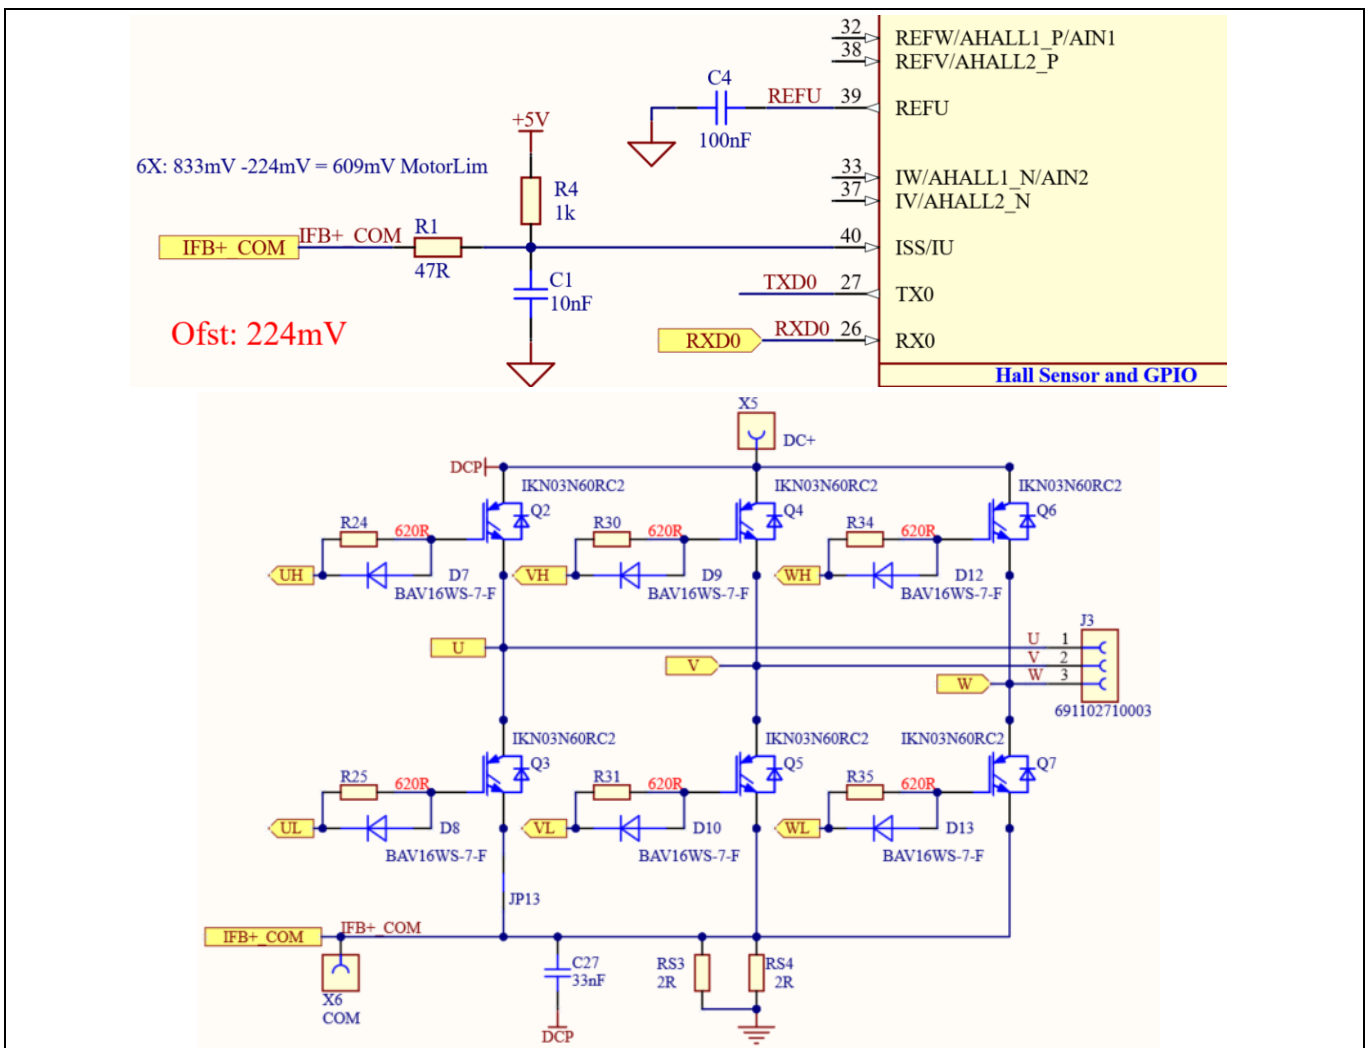

Figure 26 Motor current-sensing circuit on the board
As an example in Figure 26, this board has the following values: $R_1 = R_2 = 47 \Omega$, $R_3 = R_4 = 1 \text{ k}\Omega$, $R_s = R_{S3}/R_{S4} = 1 \Omega$, $V_{cc} = 5 \text{ V}$. By using the formula in Eq. 5, the offset is 224 mV, and the gain is $\frac{R_2}{R_1 + R_2} * R_{shunt} = 955 \text{ mV/A}$. Because the amplitude attenuation of low-pass filter, the gain needs to be amended to 909 mV/A for MCEWizard configuration.
- R_1 and R_4 in Figure 26 determine the ADC operational bias for current sensing, which corresponds to the motor regeneration operation range. For applications that do not work with a regenerative braking mode, the bias can be as low as possible to reserve enough ADC range for the drive mode, since the current in the sense resistance always flows in one direction only. In this example, the offset is 224 mV.
input to ADC offset voltage.” The DAC output pin REFU needs to be connected to a capacitor to improve noise rejection (e.g. a 100 nF/25 V capacitor is used on the board as shown in Figure 26).